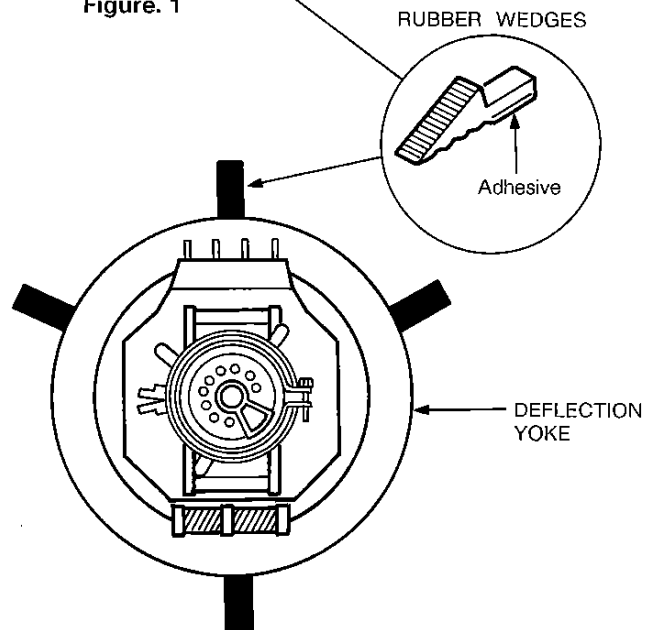

Figure 2.
10. Put four wedges into the space between the picture tube and the yoke to hold the yoke in the adjusted position. (See figure 2.)